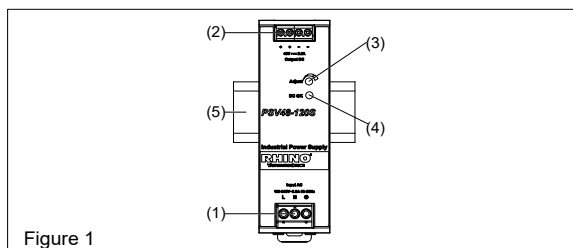
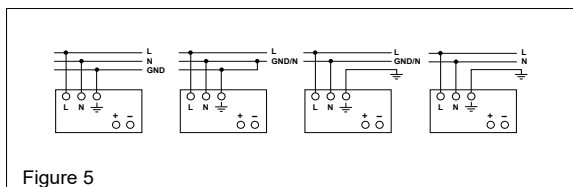

Figure 1
Figure 5
### 2. Device description (Fig. 1)
#### 5.1. Input connection (Fig. 1, Fig. 5)
Use L, N and GND connections of input terminal connector (see Fig. 1 (1)) to establish the 100-240 VAC connection. Typical connection methods are shown in Figure 5.
#### 5.2. Output connection (Fig. 1 (2))
Use the "+" and "-" screw connections to establish the 48 VDC connection. The output provides 48 VDC. The output voltage can be adjusted from 44 to 56 VDC on the potentiometer. The green LED DC OK displays correct function of the output (Fig. 1 (4)). The device has a short circuit and overload protection and an overvoltage protection limited to 56-67.2 VDC.